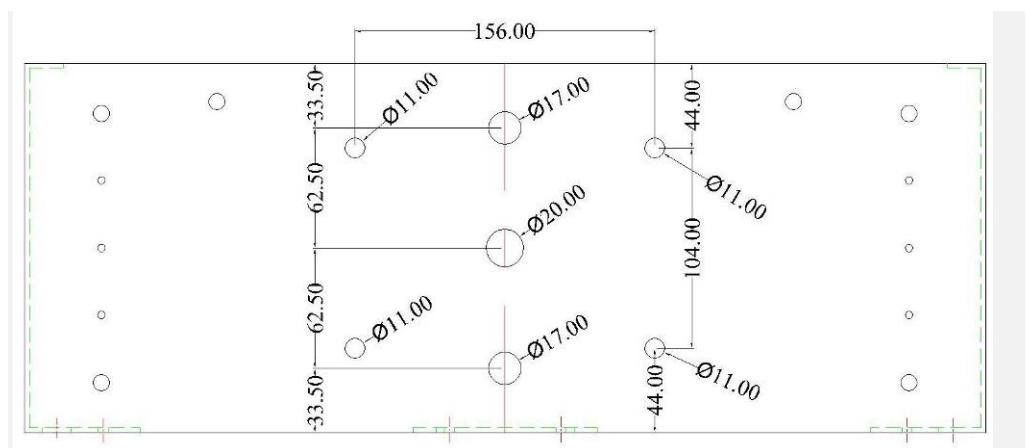

Figure 3: Installation hook-up holes
6. Unlike the KiaLEDs you can directly attach the ParkLEDs to the poles. Please refer to the diagram shown on Figure 3.